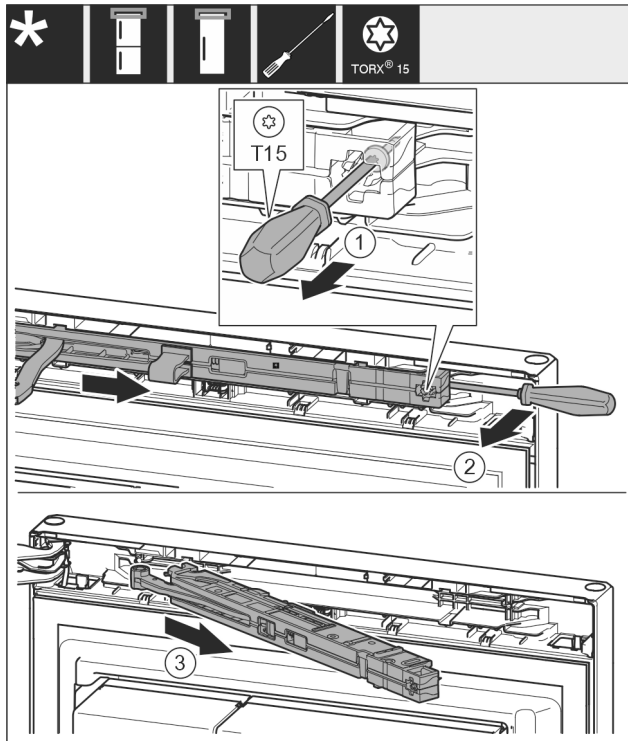

Fig. 10
- Loosen the soft stop unit screw with a T15 screwdriver approx. 14 mm (0.55 in). Fig. 10 (1)
- Insert a screwdriver behind the soft stop mechanism on the handle side and rotate the unit forwards. Fig. 10 (2)
- Pull out the soft stop unit. Fig. 10 (3)